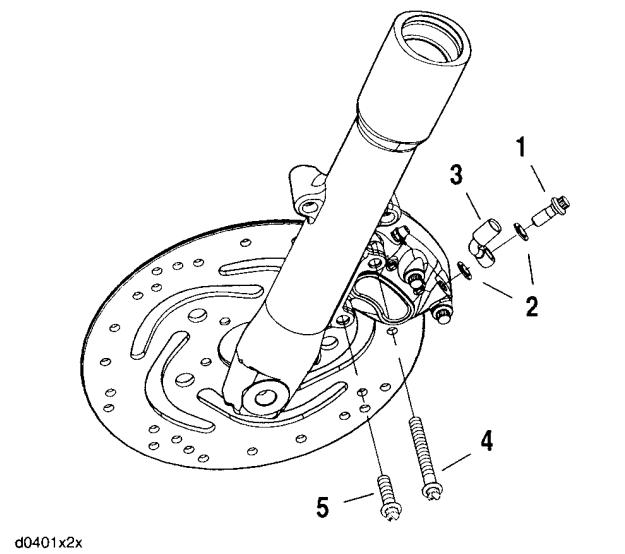
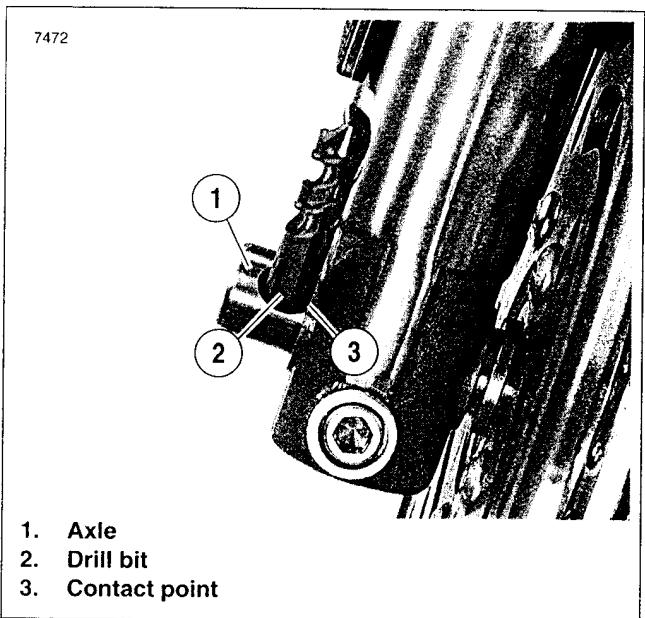

Figure 2-70. Front Caliper Mount
Figure 2-77. Dual Brake Disc Alignment
- See Figure 2-70. Remove the banjo bolt (1) and both steel/rubber washers (2) to detach front brake line (3) from caliper. Discard washers.
- Remove both the upper (4) and lower (5) mounting bolts (12 pt/10 mm). Lift caliper upward to remove from brake disc.
1. If servicing a vehicle with a single front brake caliper, advance to the next step. On models with dual front brakes, align calipers to brake discs. See Figure 2-77.
- c. Insert 7/16 in. drill bit (2) into hole in axle (1) as far as it will go.
- d. Position fork leg against edge of drill bit. Contact point (3) must have edge of drill bit touching the edge of fork leg.
2. See Figure 2-70. Attach caliper to fork leg.
- b. Loosely install long mounting bolt (4) (12 pt/10 mm) into top hole on fork leg.
- c. Install short mounting bolt (5) (12 pt/10 mm) into bottom hole on fork leg. Tighten bottom mounting bolt to 28-38 ft-lbs (38.51.5 Nm).